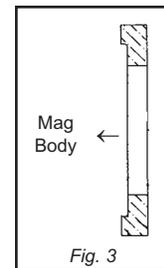

Fig. 3
- Replace adapter plate and/or friction disc. (Friction discs with indent must face toward the magbody side of the brake; see *Fig. 3*.)